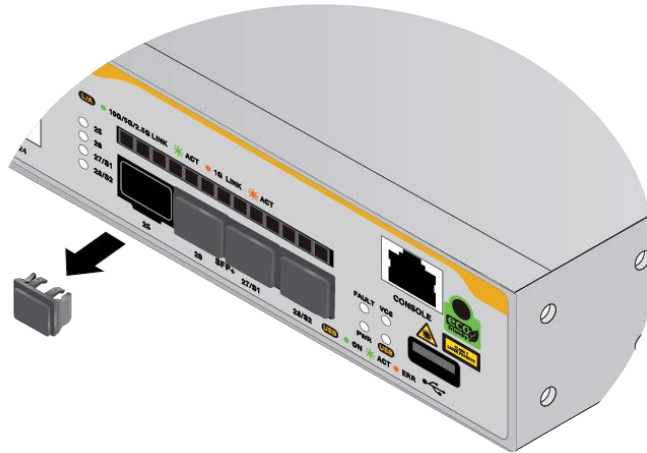

Figure 70. Removing the Dust Plug from an SFP+ Port
1. If the transceiver port has a dust plug, remove it. Refer to Figure 70.